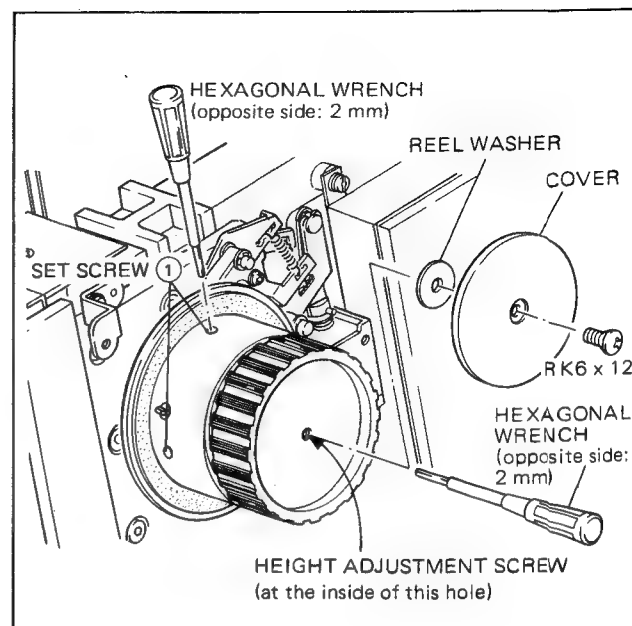

Fig. 3-20. S Reel Table Height Adjustment
- b. Loosen the two set screws ① securing the reel table, and turn the height adjustment screw shown in Fig. 3-20.